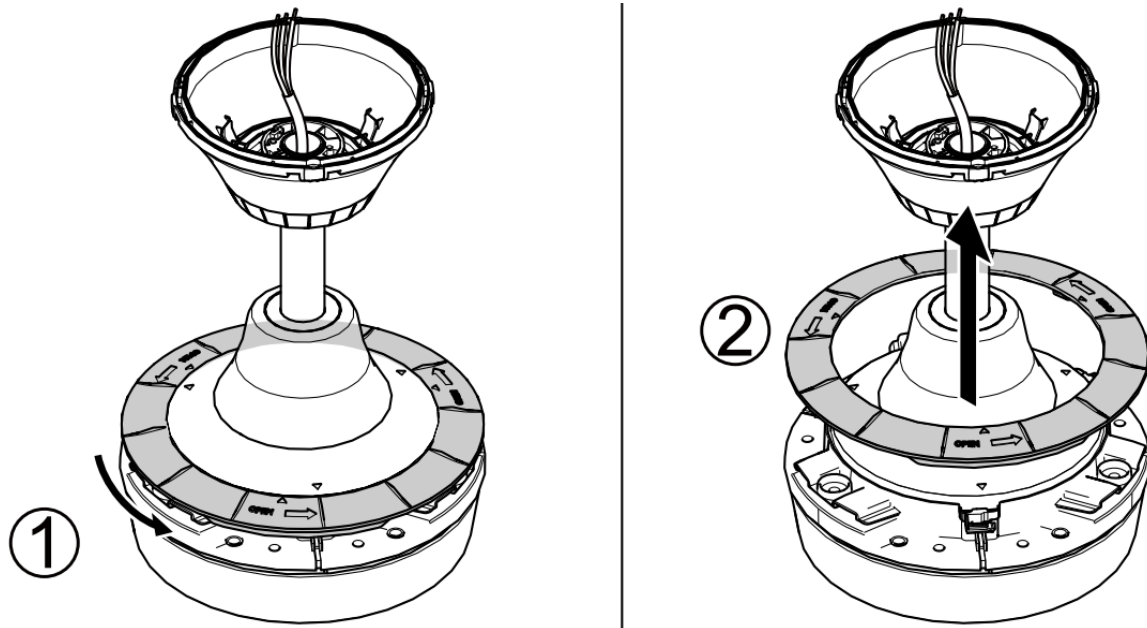

Fig. 7
INSTALLATION OF BLADE (Fig.7)
1. Turn the fan host ring cover anti-clockwise to the open position and lift up; (Fig.7)